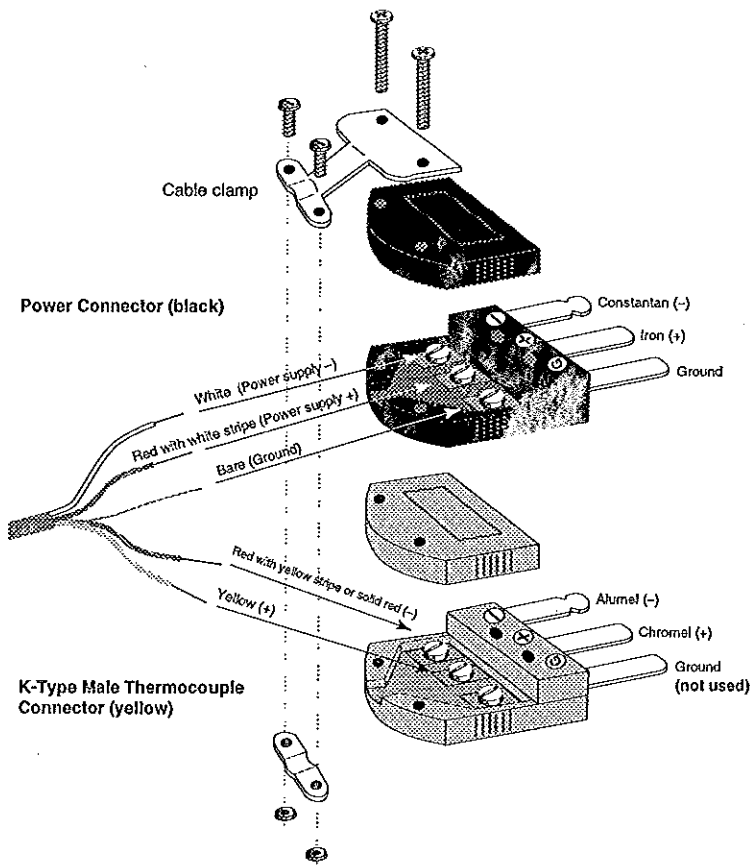

Figure 3: K-Type Male Connector
1. Remove the long screws that hold the cable clamps on the male and female connectors. (Refer to Figures 3 and 4) **Note that the connector terminals are clearly marked for negative (-), positive (+), and ground (G).**
3. On the yellow male and female connectors, which are for the K-type thermocouple output wires, connect the red wire with the yellow stripe (or solid red wire) to the negative (-) terminals and the yellow wire to the positive (+) terminals as shown in Figures 3 and 4. **Note that the female terminals are the reverse of the male terminals.**
4. On the black male and female connectors, which are for the power wires, connect the white wire to the negative (-) terminal, the red wire with the white stripe to the positive (+) terminal, and the bare ground wire to the ground (G) terminal.